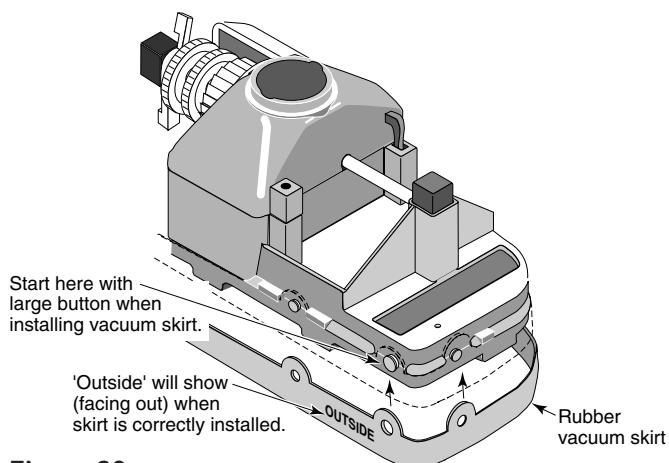
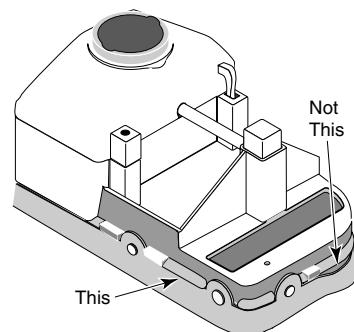

Figure 28
Figure 29
6. Install the rubber vacuum skirt on the cleaner with the word ‘OUTSIDE’ showing. Start at the large pin on the back of the cleaner head (see Figure 28) and work around the cleaner. Make sure the skirt is flush against the stop strips on the cleaner head (see Figure 29).